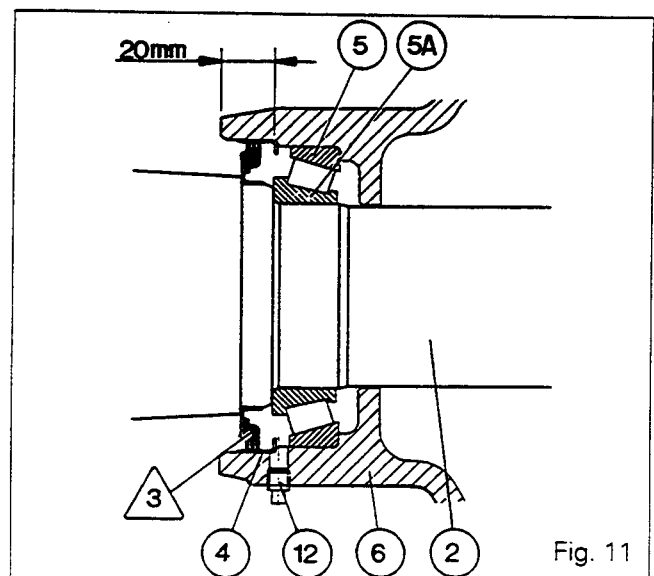

Fig. 11
12. Lubricate the cups (8) and (5) and press them fully on to the shoulder.
13. Press the housing (4) to within 20 mm of the trumpet housing (Fig. 11).
- Note: Ensure that the seal is fitted the correct way round (Fig. 11).**
15. Lubricate the shaft (2) and press the cone (5A) against the shoulder.
21. Replace the plug (12) by a grease nipple. Partly fill the cavity at the end of the trumpet housing between the cone (5A) and the seal /3\ with BP Agricharge or an equivalent grease. Remove the grease nipple and refit the plug (Fig.11).